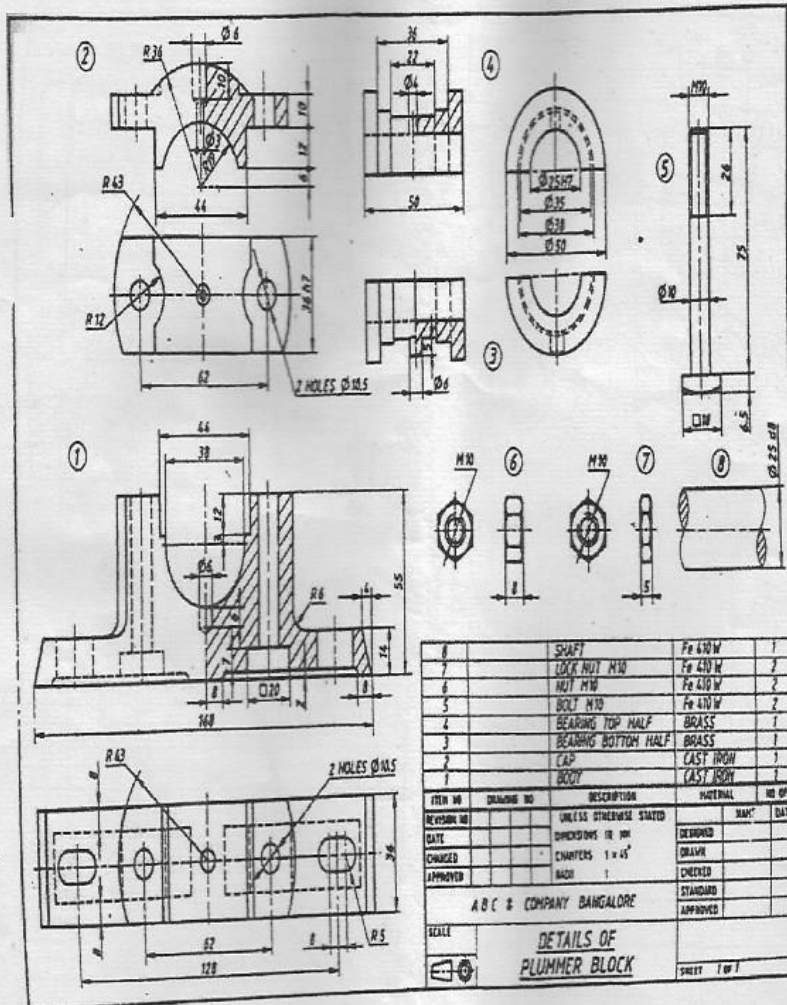

Fig.4
- (b) Details of a Plummer block is shown in Fig. 4. Assemble the block and show the front view showing right half in section. Show only important dimensions on the assembly drawing. Add the item list.